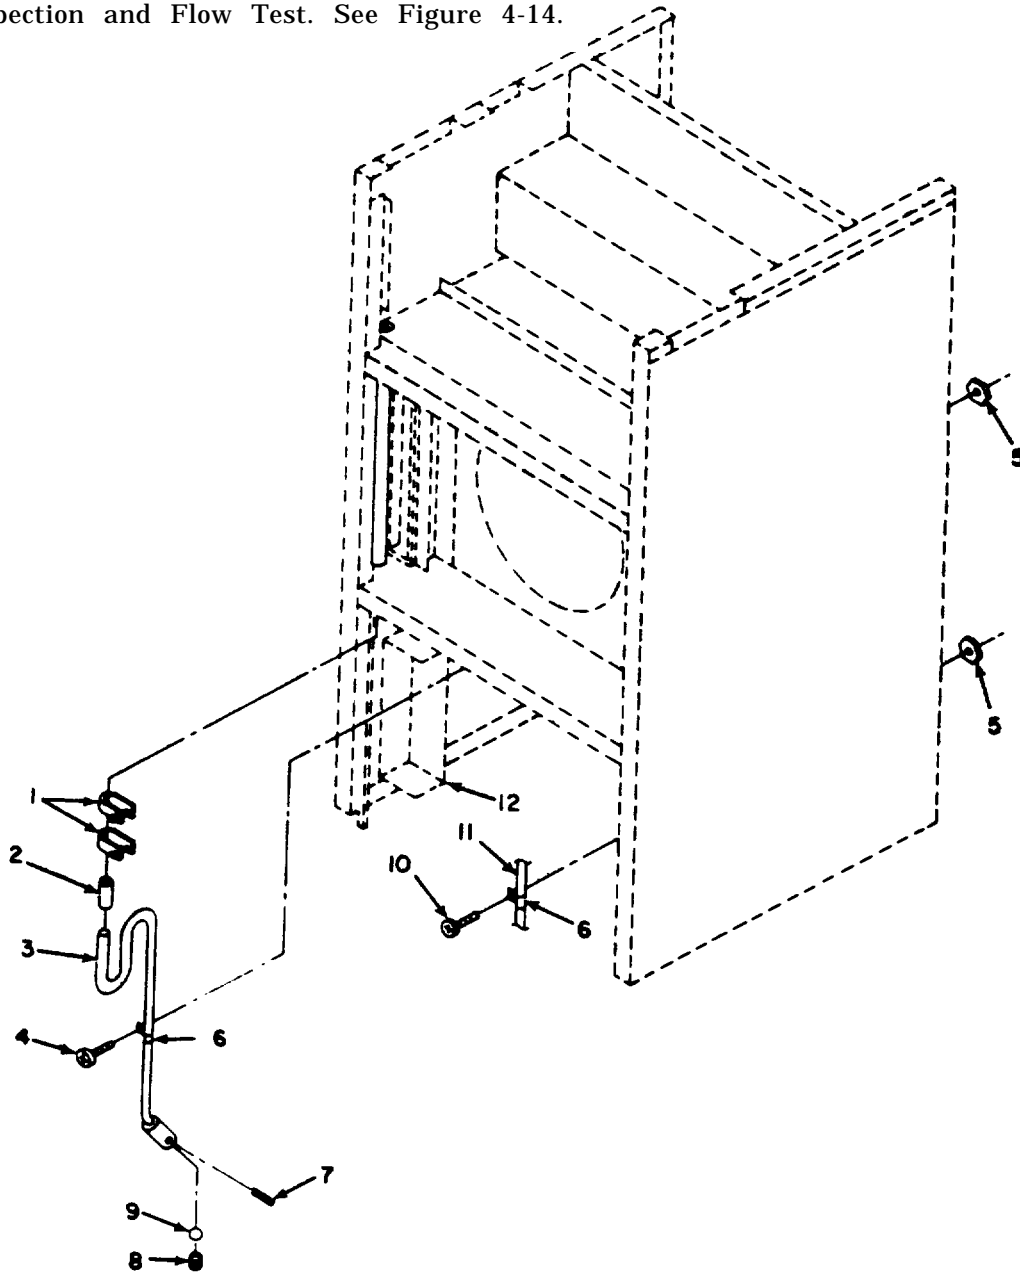

Figure 4-14. Condensate Lines.
a. Inspection and Flow Test. See Figure 4-14.